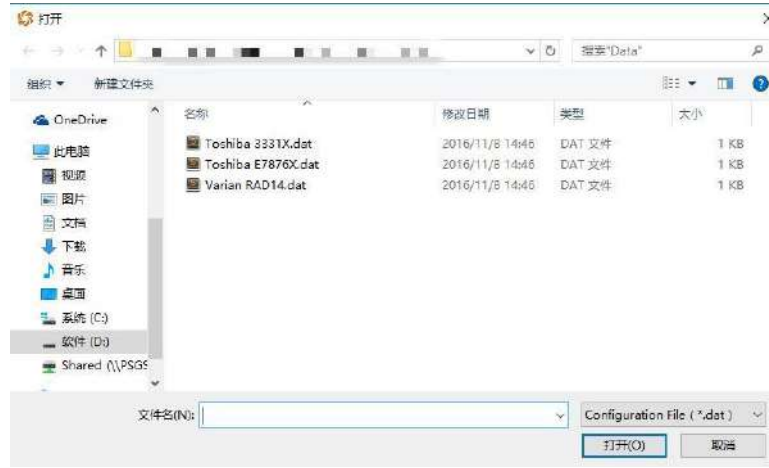

Figure 3-14 Selection of the configuration file
1) **Read configuration:** There are two ways to read the configuration. One is to click "Open" and pop up the interface as shown in Figure 3-14